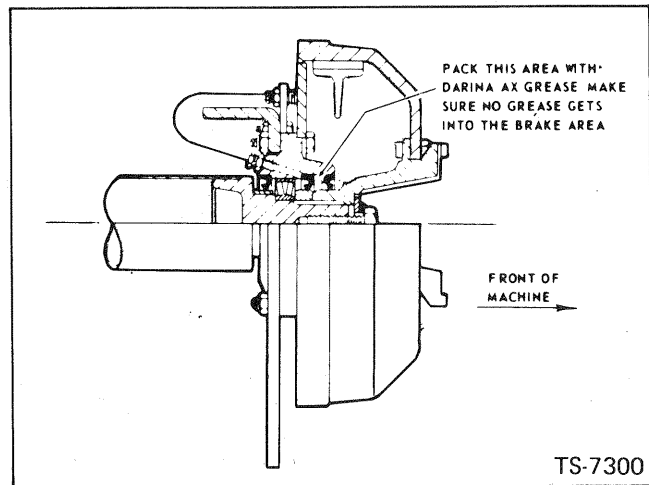

Fig. 13-5
6. Pack the area behind the above removed seal with Darina AX grease. See Fig. 13-5 which illustrates the area to be greased. **MAKE SURE** that no grease gets into the brake area after the seal has been reassembled.